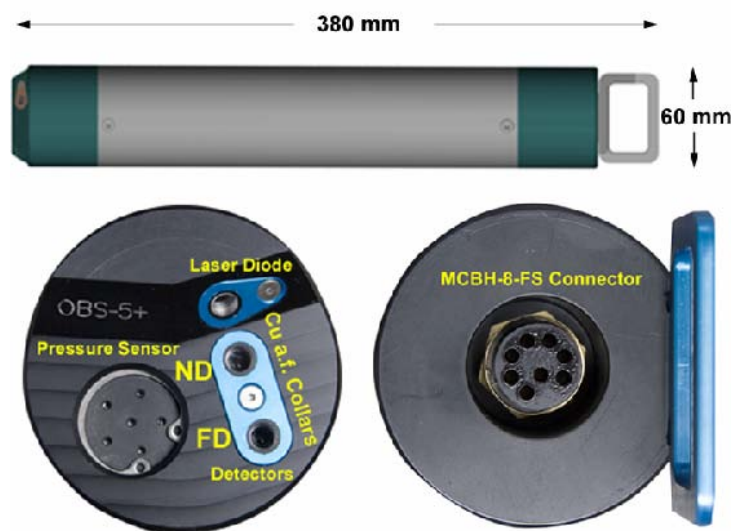
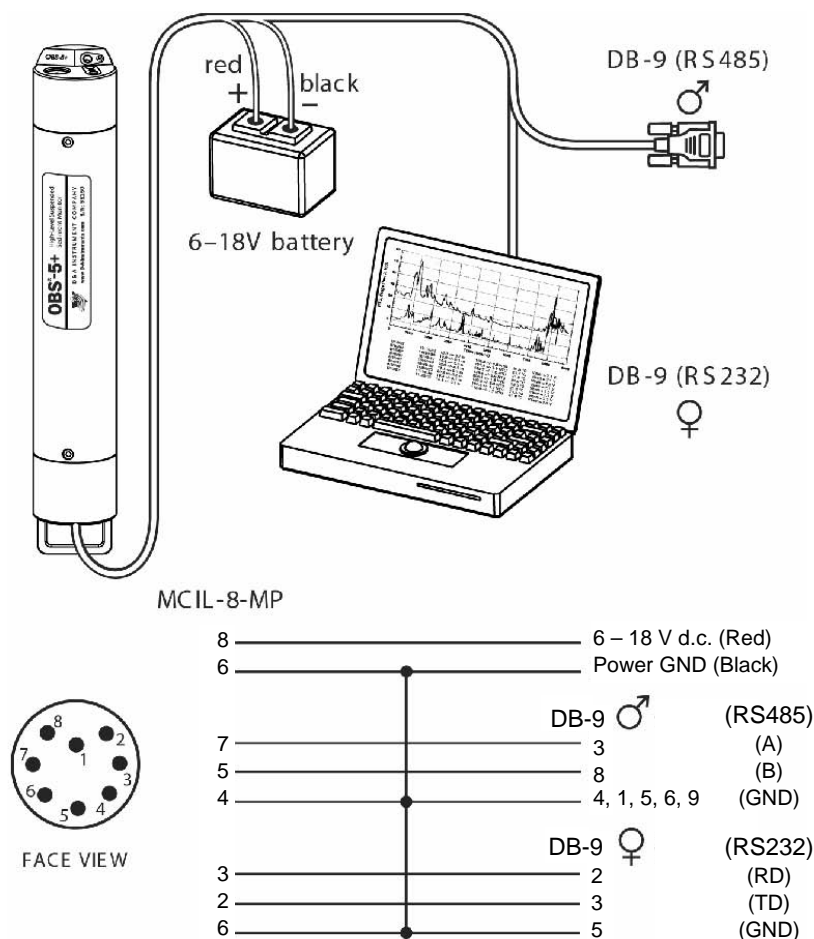

FIGURE 4-1. Dimensions (top), sensor endcap with copper antifoulant (Cu a.f.) collars (left) and connector endcap (right)
FIGURE 6-1. Electrical connections
FIGURE 4-1 shows the dimensions of the OBS-5+, the sensors in the sensor endcap, and underwater connection. Detailed specifications are provided in Section 5, *Specifications*. The OBS-5+ can be operated in Survey or Cyclic Modes. In Survey Mode, the unit sends data via RS-232 or RS-485 to a PC at two hertz, and in Cyclic Mode, it logs as many as 200,000 scans of time, date, depth, and $g\ L^{-1}$ in flash memory (one sample per hour for 23 years). When sampling continuously, the unit will run about 125 hours on three C-size alkaline batteries in 20°C water (about two weeks of eight-hour survey days). When using the instrument for surveys, the data are captured by a PC running the *OBS-5+ software*. Pressure is measured with a silicon strain-gauge pressure sensor and the depth of the instrument is calculated from water density and barometric pressure entered by the operator.
The OBS-5+ will usually be towed with a cable harness for surveys. The serial cable can tow the OBS-5+ without a depressor weight or vane as long as the connector is strain relieved. Strain relief can be provided by attaching the cable to the stainless steel housing (FIGURE 4-1) with a cable grip and a length of 3 mm (1/8 in) wire rope. Install a cable clamp with a 0.5 m wire rope to the serial cable, and clamp the wire rope to the pressure housing with two stainless steel hose clamps, providing a small loop of slack cable to absorb towing forces. The unit can be powered with an external battery, as shown on FIGURE 6-1, and the serial output can be transmitted by either RS-232 or RS-485 protocols. The latter protocol is recommended for cable lengths greater than 25 m. An RS-485/232 serial converter is provided with each unit. An RS-232 to USB converter is an available option.
- 4) Connect the OBS-5+ to a PC with the test cable (FIGURE 6-1).